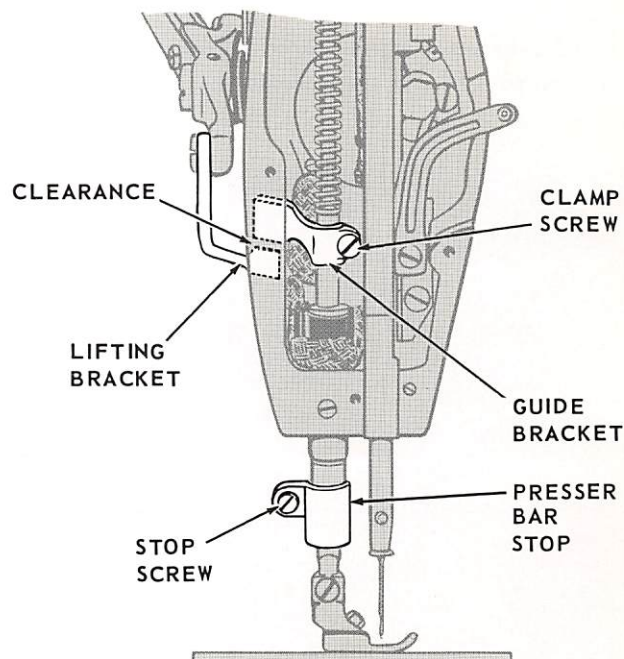

Fig. 15. Presser Bar Height Setting
1. When presser foot rests firmly on throat plate with feed dog below throat plate, guide bracket should just clear lifting bracket, as shown in Fig. 15.
ADJUSTMENT: Loosen guide bracket clamp screw and presser bar stop screw shown in Fig. 15.
1. Position guide bracket so that it just clears lifting bracket, as shown in Fig. 15. Align presser foot with feed dog. Tighten guide bracket clamp screw.